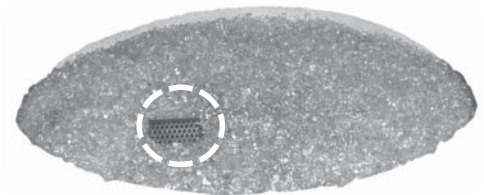

Fig. 21-2
1. Pour the glass/gems out of the bag(s), evenly covering the lava but not the screen (Fig. 21-2).